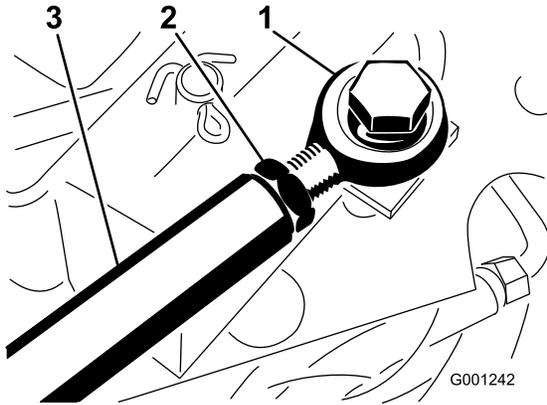

Figure 80
If more adjustment is required, adjust the traction rod (Figure 80) as follows:
2. Loosen the jam nut that secures the rod end to the traction rod (Figure 80).
4. Tighten the jam nut (Figure 80) and secure the rod end to the traction pedal with the bolt and nut removed to lock the angle of the foot pedal.